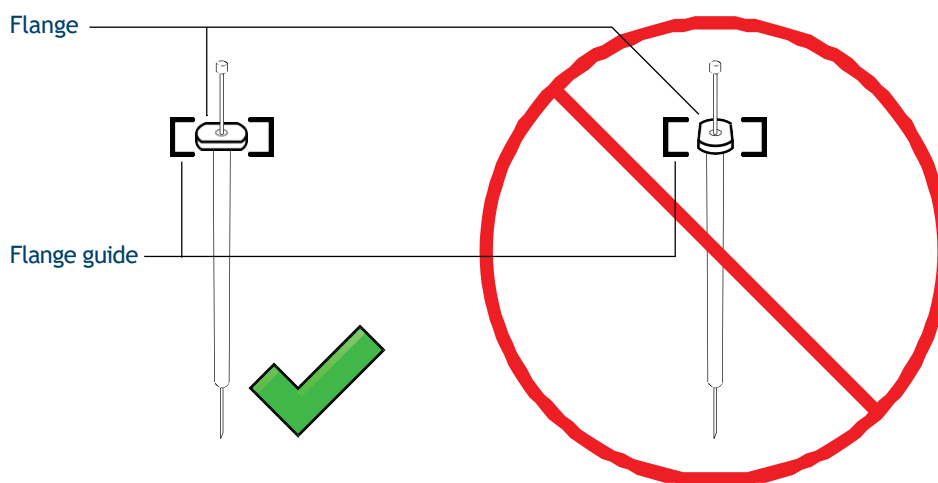

Figure 72. Syringe flange orientation
- 7 Align the syringe flange with the flange guide and press the syringe into place, keeping the needle end in the guide hole of the needle support foot. Make sure that the flat edge of the syringe flange faces out (Figure 72).